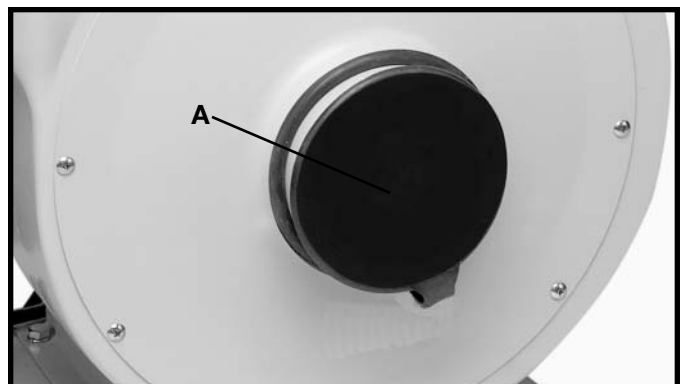

Fig. 31
4. **⚠ WARNING:** Always make sure that the intake cap (A) Fig. 31, covers the intake port when the hose is not connected to the machine.